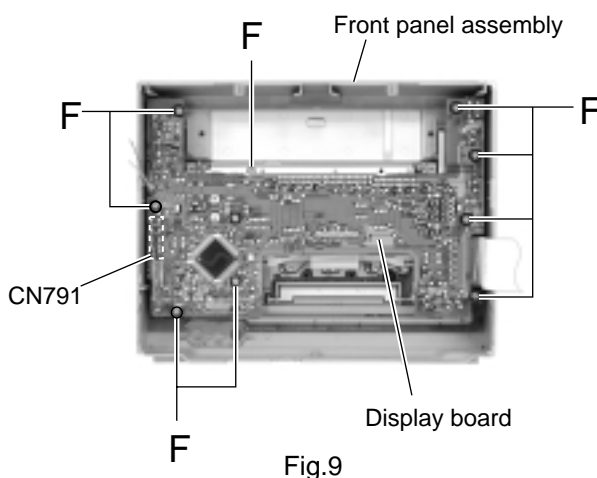

Fig.9
■ Removing the display board (See Fig.9)